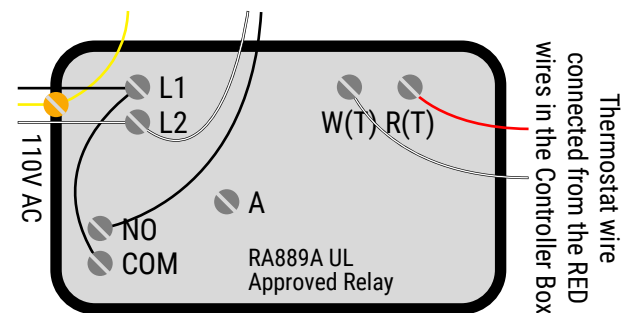

Fig. 17
- **Single Fixture Connection (Fig. 17):**